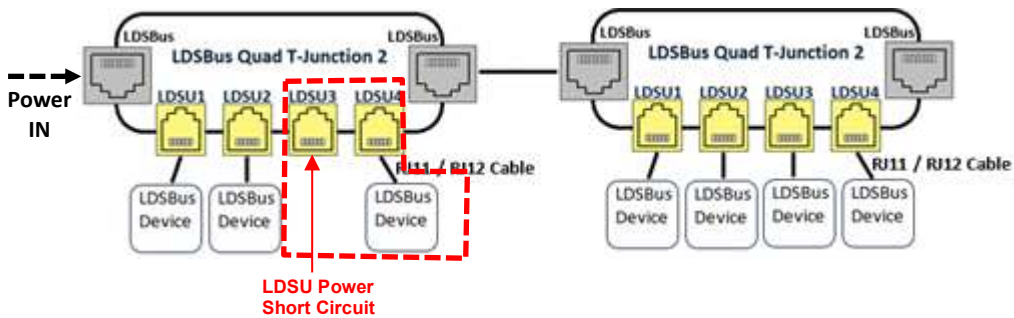

Figure 7 - Short Circuit at 5V output port during operation
- Power will be cut off only for the affected LDSU3 port and any subsequent LDSU ports in that particular LDSBus Quad T-Junction 2 (**indicated by a dotted line in Figure 7**).